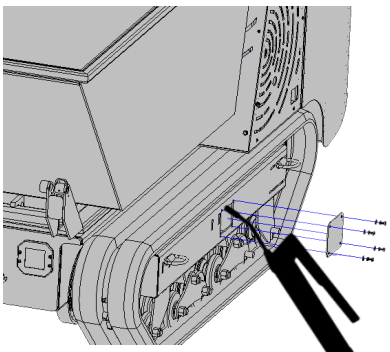

Fig 17
1. Remove the tensioner access plate on the side of the tracks. **(Fig 17)**